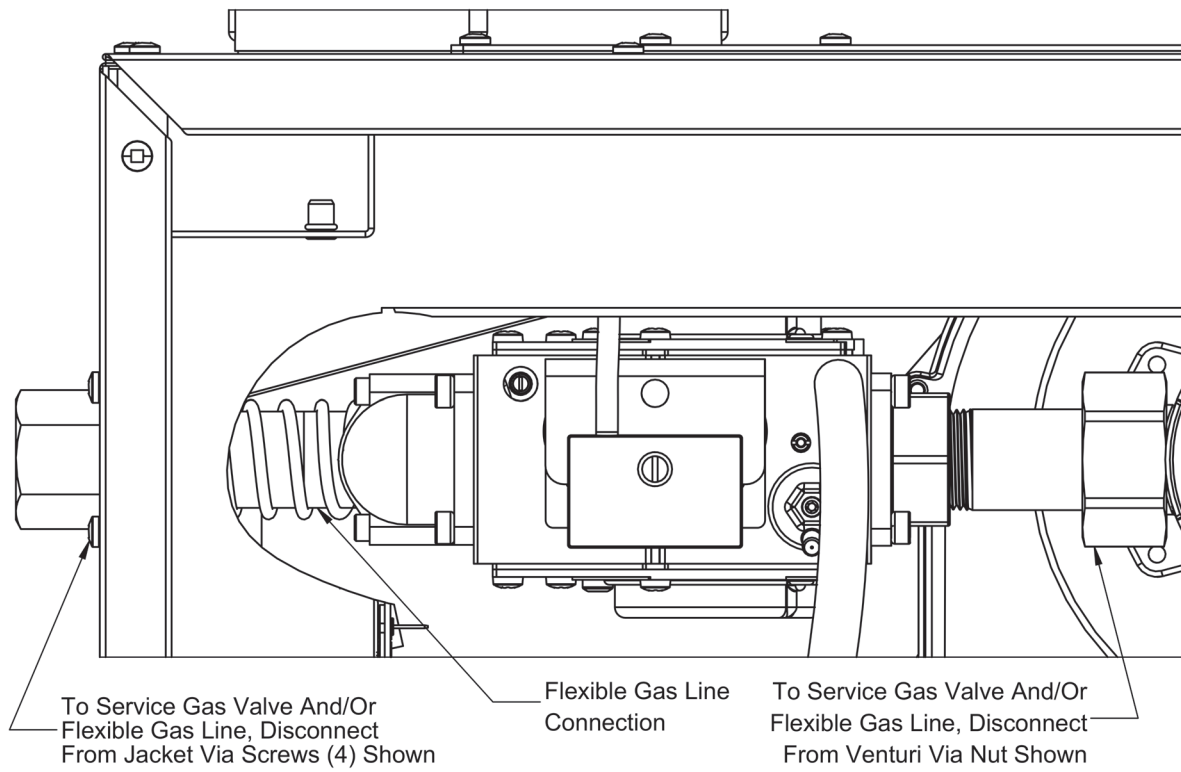

Figure 13.1: Disconnecting Flexible Gas Line
- e. **Disconnect the gas line** at the gas pipe union connection (Figure 13.1).
Fire Hazard. Explosion Hazard. Always use a back-up wrench on the flare connection when making or breaking this connection as shown in Figure 13.1. Failure to do so can cause adjacent threaded connections to loosen or damage to the gas valve. Check all internal gas piping for leaks any time it is disconnected or disturbed during servicing.